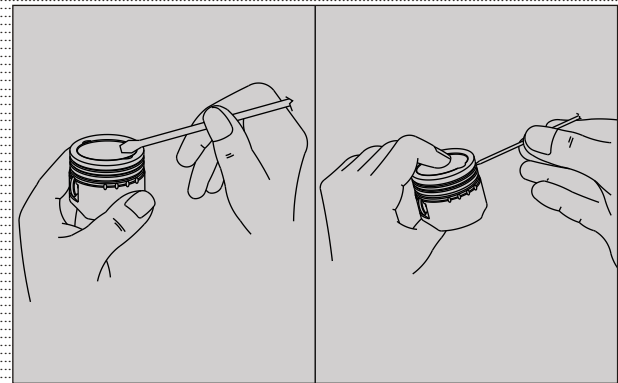

Fig. 3.162
- Carbon deposits in the groove are liable to cause the rings piston to stuck in the groove, and this leads to reduced engine power output. (Fig. 3.162)